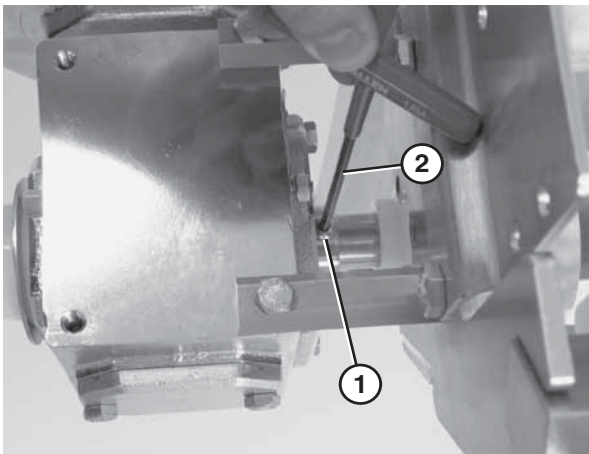

Figure 68
1. Loosen the fasteners (**Figure 68, item 1**) that connect the gearmotor to the drive spindle using a hex wrench (**Figure 68, item 2**).